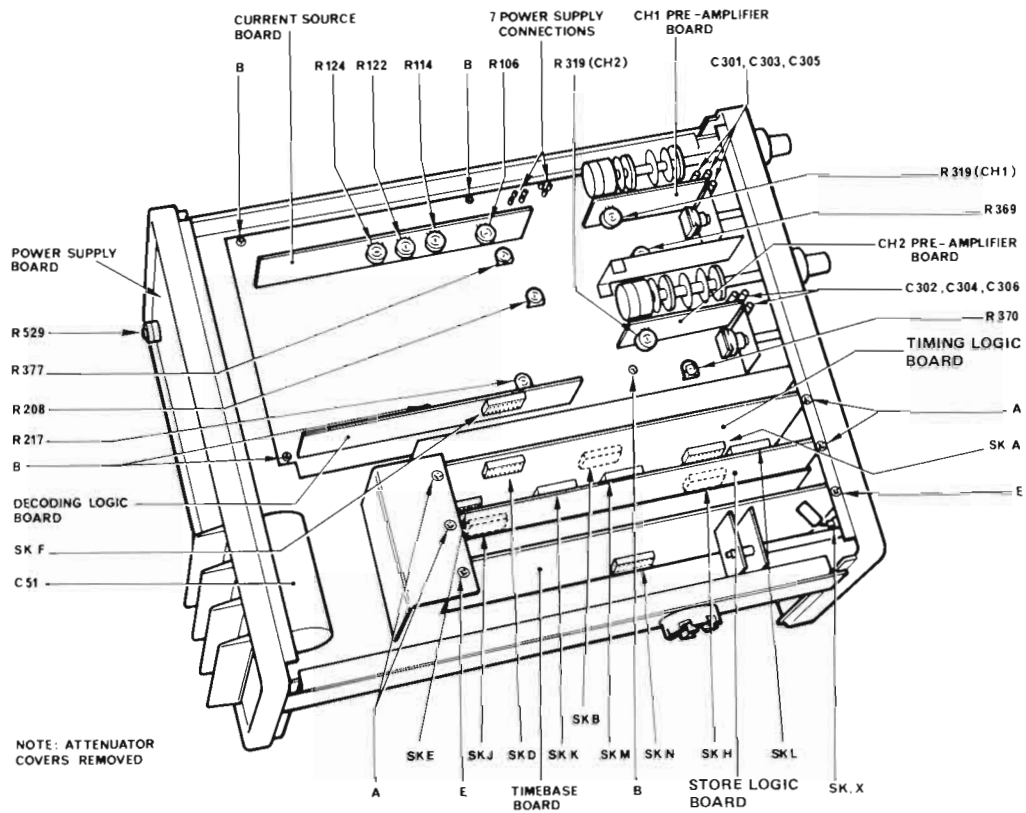
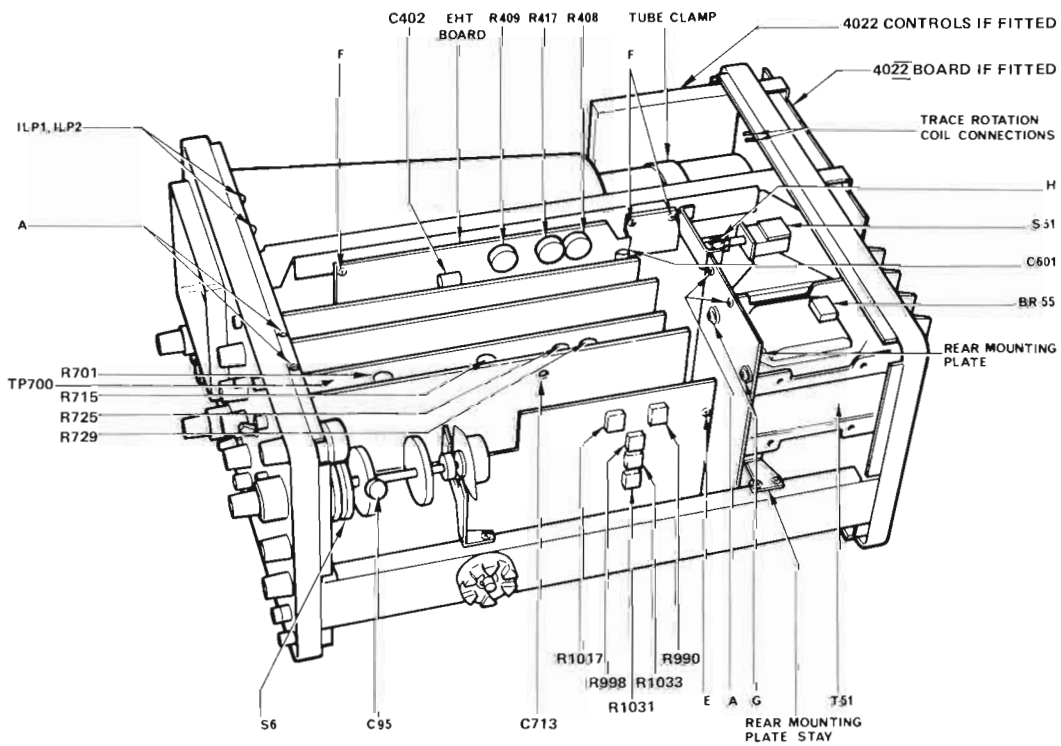

Fig. 5.1 Oscilloscope Bottom View
Fig. 5.2 Oscilloscope Right Hand View
Figures 5.1, 5.2 & 5.3 illustrate the internal layout of the instrument and show the positions of the majority of preset components when the top and bottom covers have been removed. Each cover is retained in position by four latch fasteners. Each fastener is released by turning it one quarter of a turn clockwise or counter clockwise.
2. Remove the 8 screws marked 'A' in Figs. 5.1 & 5.2.
4. Remove the 5 securing screws marked B in Fig. 5.1. Lift the rear of the board and withdraw it from the instrument.
2. Remove the two screws, marked 'G' in Fig. 5.2, securing the power transformer to the logic assembly mounting plate.
3. Slaken the clamp, marked 'H' in Fig. 5.2, and release the ON/OFF switch actuating rod from the ON/OFF switch.
5. From underneath the instrument, disconnect and identify the three screened leads to the pins labelled SB, CH1 trig. and CH2 trig. with associate earths, and the single wire to the Line trig. pin. Remove the two bottom fixing screws (marked 'E' in Fig. 5.1). Remove the rear mounting plate stay (see Fig. 5.2). Pull the rear of the board back between the power transformer and the frame side-member until it is possible to disengage the rotary control spindles from their holes in the front panel. The board may now be withdrawn from the instrument, together with the TIME/CM switch.
2. Slacken the clamp 'H' (see Fig. 5.2) and withdraw the ON/OFF switch actuating rod through the front panel.
4. Release the 3 screws marked 'F' in Fig. 5.2 and pull the board towards the rear of the instrument until the control spindles clear the front panel, and remove the board from the instrument.
The calibration procedure is detailed below. Note that any calibration adjustments found necessary must not be made until a 15 minute warm-up period has elapsed. The locations of the various preset components are shown in Figs. 5.1 and 5.2.
5. Measure the voltage across C402 (see Fig. 5.2) on the E.H.T. board and adjust R409 (SET E.H.T.) to bring this to 185V with the supply voltage adjusted as in 2. above.